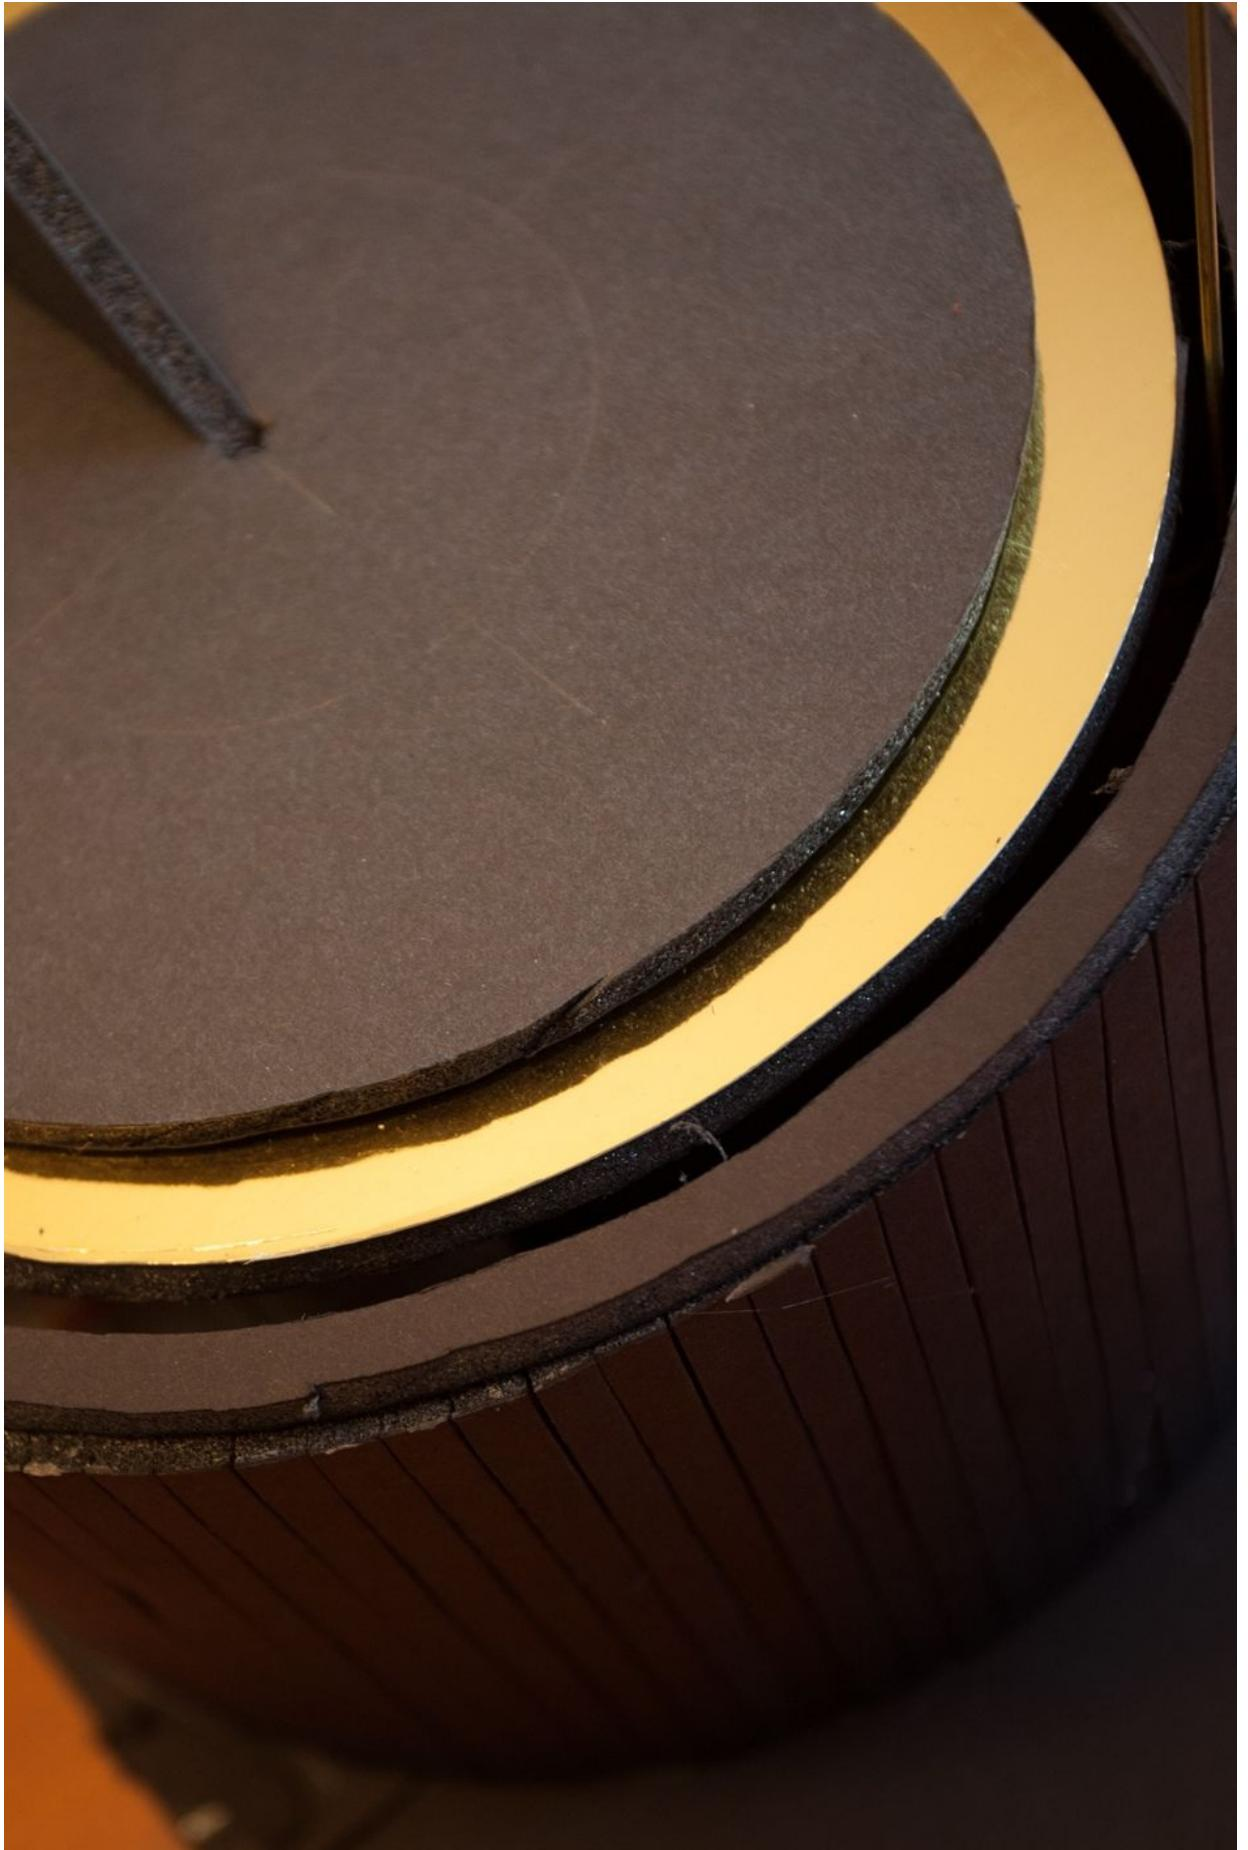

Figure 7-13. Don't block the track with the curved support
6. Position your base disk on the base walls and figure out where the curved disk support needs to fit against the front wall of the sundial. It's important that the disk support wall support the base disk but not block the inner track (Figure 7-13).